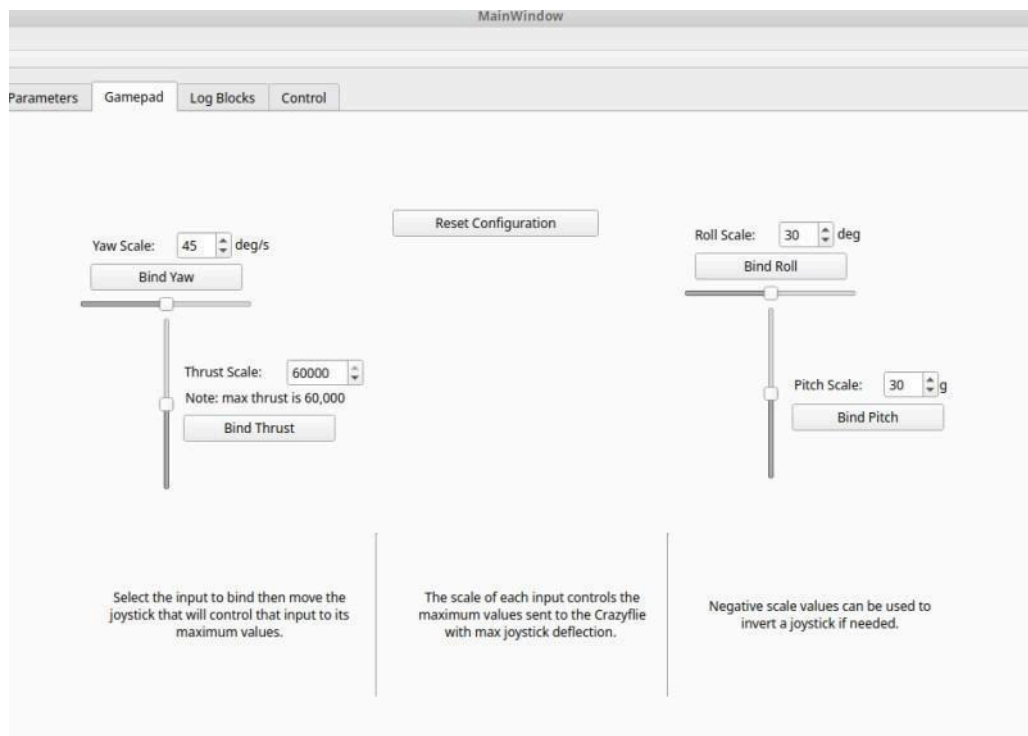

Figure 15: Gamepad Menu
2. Navigate to the Gamepad tab as shown in Figure 15.